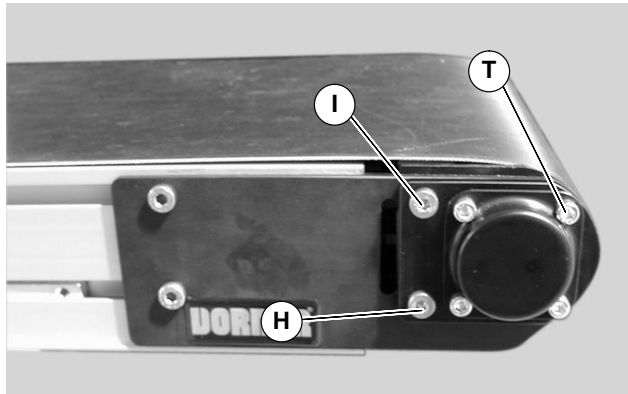

Figure 24
7. Loosen screw (H of Figure 24) on both sides of conveyor.
8. Remove screw (I of Figure 24) and screw (T). Remove existing spacer plates (J of Figure 25) on both sides of conveyor.